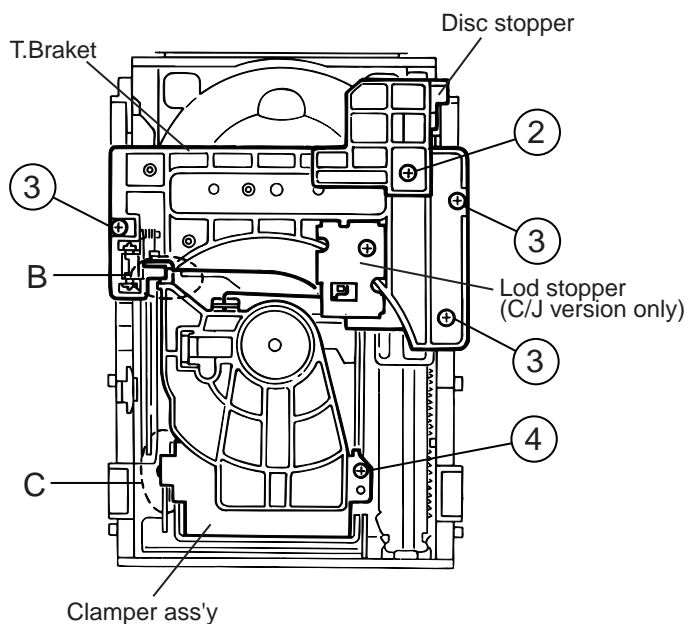

Fig.3
5. Remove the screw 2 retaining the Disc stopper (See Fig.3).
6. Remove the three screws 3 retaining the T.bracket (See Fig.3).
7. Remove the screws 4 retaining the clamber assembly (See Fig.3).
2. When the flywheel R is rotated in counterclockwise direction, the playback head will be turned in counterclockwise direction from the position in Fig 2 to that in Fig 3.